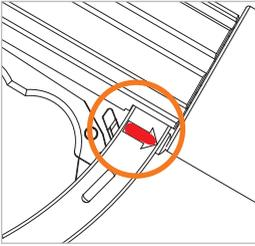

Figure 14
- ▶ Pull the locking lever (Pos. 6) back in the direction of the arrow (Figure 14) to release the locking mechanism and to move the actuation lever (Pos. 7) to the OFF position.